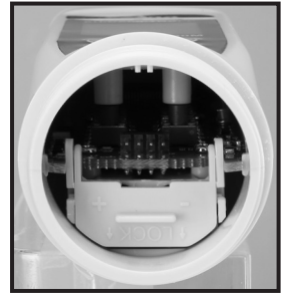
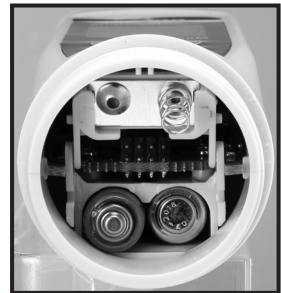

Fig. 1
Fig. 2
- Slide off the protective cap (12) and then remove the moisturizing cap (11). Remove the moisturizing cap by turning it anticlockwise.
- Remove the cap nut (9) turning it anticlockwise. Carefully remove the measuring electrode (10) to open the device. The battery compartment (8) will then be visible (see fig. 1).
- Pull the battery compartment lid towards the opposite of the arrow marking in order to open the battery compartment. The battery compartment lid can be flipped backwards (see fig. 2).
- Attach the measuring electrode in such a way, that the recess on the measuring electrode fits on the guide (see fig. 1 and fig. 2, top).